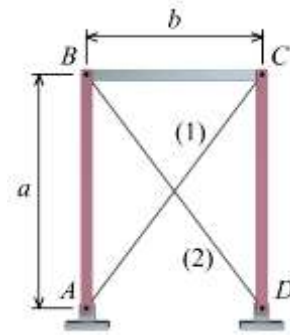

FIGURE P2.3
**P2.3** Pin-connected rigid bars  $AB$ ,  $BC$ , and  $CD$  are initially held in the positions shown in Figure P2.3 by taut wires (1) and (2). The bar lengths are  $a = 24$  ft and  $b = 18$  ft. Joint  $C$  is given a horizontal displacement of 5 in. to the right. (Note that this displacement causes both joints  $B$  and  $C$  to move to the right and slightly downward.) What is the change in the average normal strain in wire (1) after the displacement?